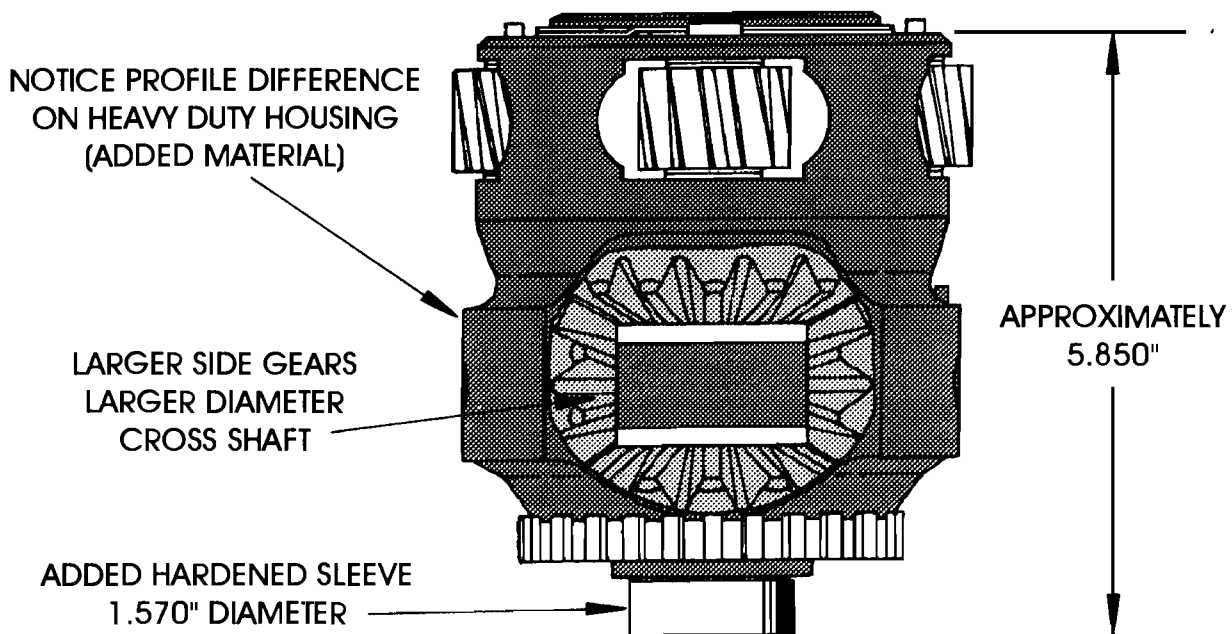

Figure 12
- (1) **FINAL DRIVE ASSEMBLY** - The final drive housing has added material in the cross shaft area, is longer than the previous model, has larger side gears and pinion gears, has a larger diameter cross shaft, and a hardened sleeve added that rides in a new Torrington bearing in the final drive housing. Refer to Figure 12 for comparisons between the previous and new design.